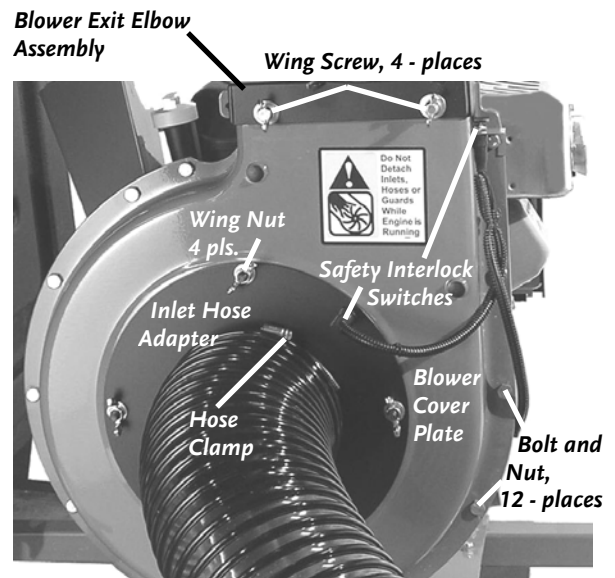

Figure 35
1. Loosen the Hose Clamps retaining the Inlet Hose at the Inlet Hose Adapter and the connector fitting at the opposite end of the hose. Then slip the hose off the adapter and fitting (**Figure 35** on page 41).
2. Remove the Wing Nuts and Wing Screws to disconnect the Inlet Hose Adapter and Blower Exit Elbow Assembly from the Chipper/Blower unit (**Figure 35**).
3. Using two (2) 1/2" wrenches or sockets, remove the 12 Bolts & Nuts retaining the Blower Cover Plate (**Figure 35**) and remove the plate from the blower housing. The Chipper Impeller is now exposed.
2. Remove the Inlet Hose by loosening the Hose Clamp (**Figure 35** on page 41).
<p>The engine won't start manually.</p> <p>(Please refer to the engine owner's manual for engine-specific procedures.)</p>	<ul style="list-style-type: none"> <li>⇒ Check that the spark plug wire is attached.</li> <li>⇒ Check the oil and gas level. See page 25.</li> <li>⇒ Are you using fresh, clean gas? If the gas is old, change it. Use a fuel stabilizer if you keep gas longer than one month.</li> <li>⇒ Check the throttle adjustment and travel. See page 26.</li> <li>⇒ Is the spark plug clean? If the spark plug is dirty or cracked, change it. If it's oily, leave it out, hold a rag over the plug hole and pull the recoil cord several times to blow out any oil in the cylinder, then wipe off the plug and reinsert it.</li> <li>⇒ Check that the Safety Interlock Switch is depressed. See page 18 Figure 10 and page 41 Figure 35.</li> <li>⇒ If your engine still won't start, call 1(800) DR-OWNER (376-9637) for assistance.</li> </ul>